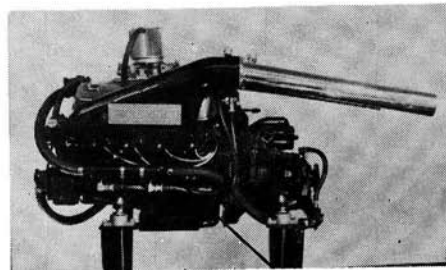

Figure 20
- c. If equipped with an optional oil cooler or transmission oil cooler, remove plug in cooler and allow water to flush through engine. (See Figure 20).